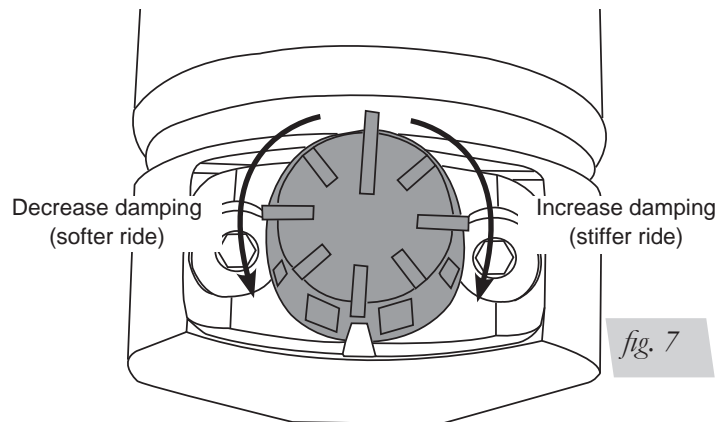

fig. 7
1. Some struts for this vehicle come with a nine-position damping dial for added adjustability (fig. 7). If not, proceed to 2.